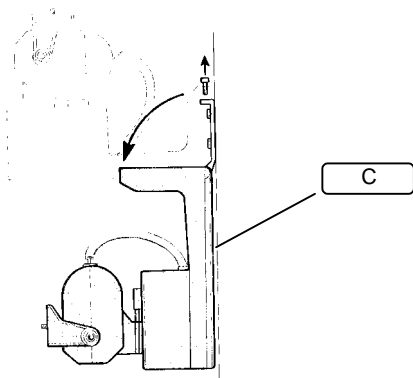

Fig.3
5. Hook sequentially the cover **C** and the pan & tilt to the aluminium plate **B** (Fig.3)